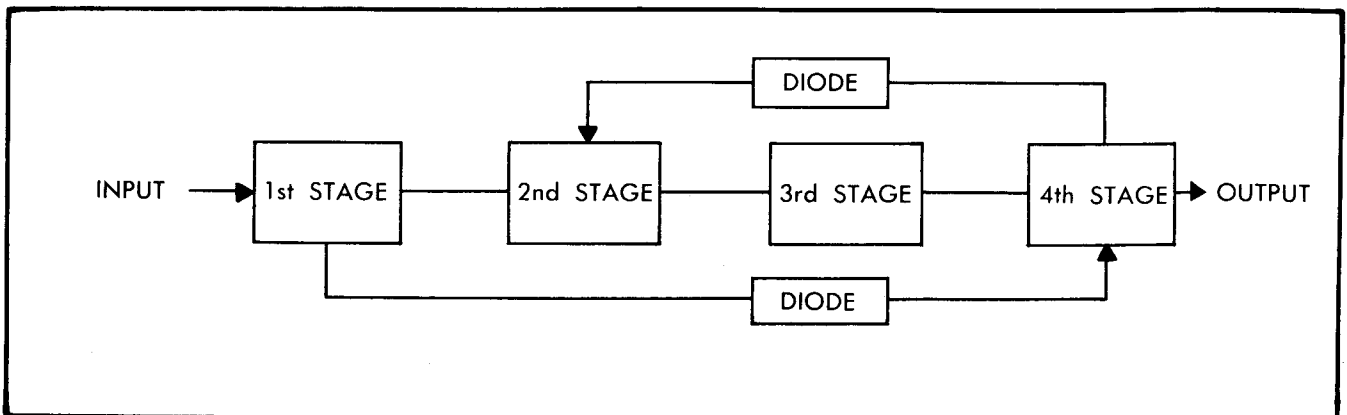

Figure 2-5. Decimal Counting Unit, Simplified Block Diagram
4. Figure 2-5 is a simplified block diagram of the decimal counting unit. The basic circuit is a four-stage binary scale-of-16 that is permuted to a scale-of-10 operation. Each stage is a scale-of-two (flip-flop) circuit which acts as an impulse divider, producing one output pulse for two input pulses. Diodes are used as coupling between stages. The unit operates as a binary scaler until the eighth input pulse is received. The 4th stage does not change its position until the eighth pulse. At this time the "off" plate of the second stage is clamped by a diode connected back to the fourth stage, at a voltage such that the first stage cannot drive the second stage until the clamp is released. The ninth input pulse flips the first stage in the usual manner. The tenth input pulse "flips" the first stage, driving the fourth stage back to its original state. This releases the clamp on the second stage and all the stages are in the "zero" con-